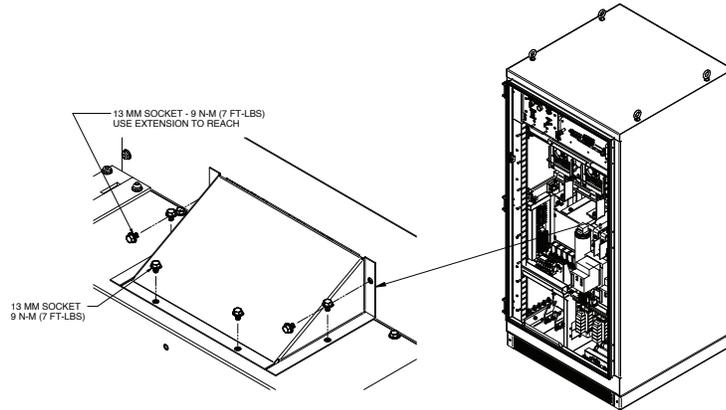

Figure 40. Removal of inductor fan cover.
- Inductor fan (requires removal of inductor fan cover. See Figure 40.)